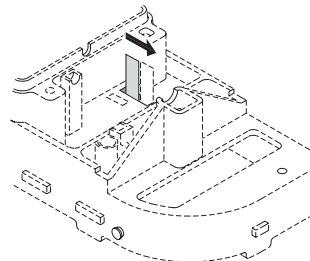

Figure 26
8. The metal ratchet tab slides out of its slot sideways; replace it by removing the center brushes and sliding in a new ratchet tab until it is flush with the edge of plastic holder (Figures 26 and 27). Replace the center brushes.